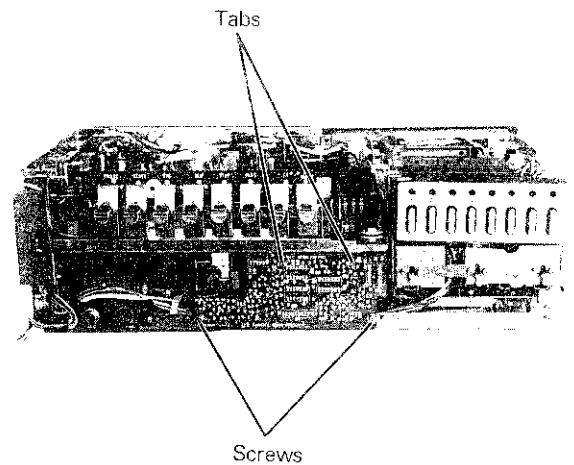

Fig. 4-11
1. Remove the two screws on the printed circuit board as shown in Fig. 4-11.